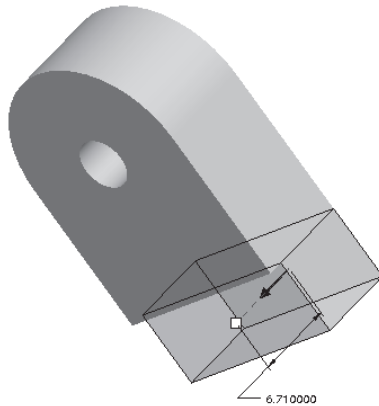

Figure 5-60 Arrow showing the direction of feature depth
4. Use the middle mouse button to orient the model, as shown in Figure 5-60. This orientation of the model gives you a better view of the sketch in the three-dimensional